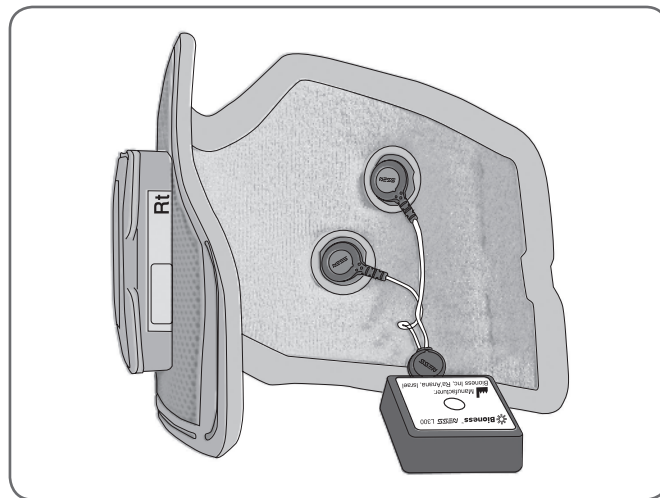

Figure 85: L300 Tester connected to the FS Cuff.
1. Connect the L300 Tester to the FS Cuff. See Figure 85.